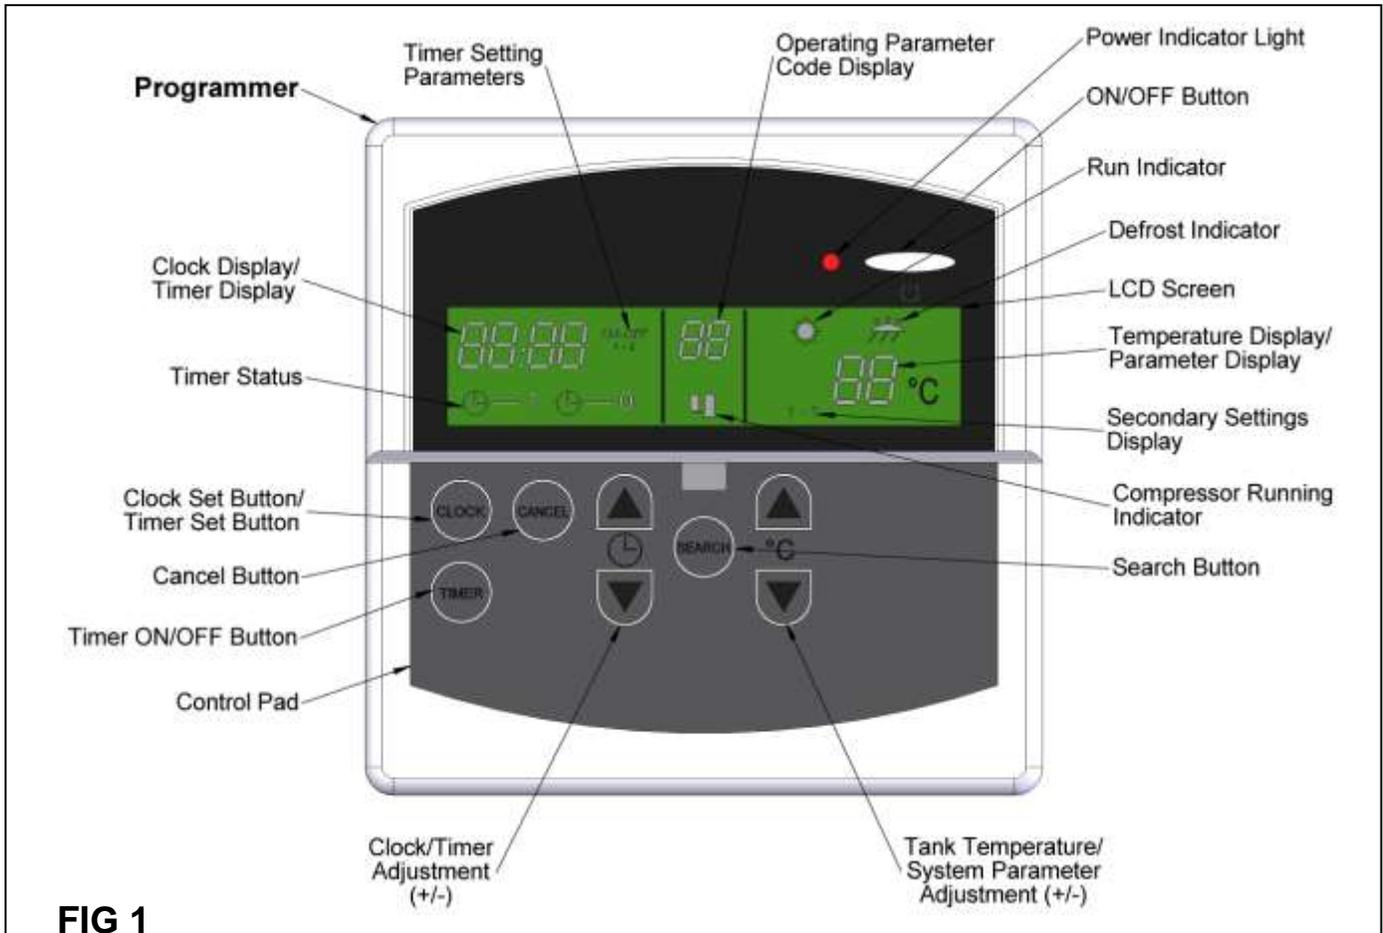

FIG 1
The diagram below (fig. 1) shows the programmer layout with the controls uncovered (lift off the protective flap).
In certain circumstances, the unit may enter a temporary lock-out mode in order to maintain efficient operation. During such times, a code will appear on the programmer display (**fig. 1**). This is entirely normal and the unit will automatically resume functioning once it has completed its reset cycle.
If the temperature is cold enough for ice to develop on the coil, this may become clogged and cause the appliance to cease operation. Should this occur, the unit will automatically enter defrost mode. This will divert heat from the heating circuit back to the coil until the ice has melted. The DEFROST symbol will appear above the temperature display (see **fig. 1**) during such times.
1. The unit may be running through a process to clear an operating parameter condition. In most cases, this will be cleared automatically, though if it persists, check the programmer display (**fig. 1**) for an operating parameter number. Refer to the guide on **page 21** for full descriptions and remedies.
4. Check the unit has not entered defrost mode (the DEFROST symbol will appear above the temperature display – see **fig. 1**). Should this occur, the heat output from the appliance will be diverted to the coil, until any ice build-up has been removed.